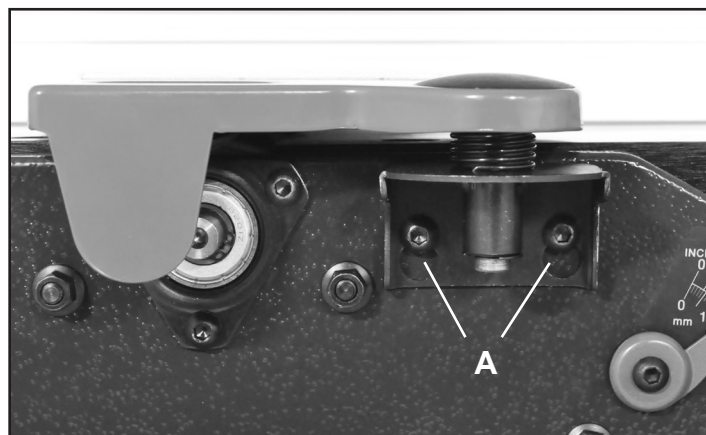

FIG. 8
1. Attach the Cutterhead Guard to the jointer with the two Button Head Screws (A). FIG. 8.